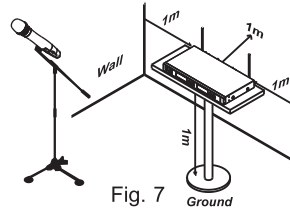

Fig. 7
4. For improving the reception range, install the receiver at least 1 meter above the ground and away from EMI / RFI “noise” sources. Also, place the transmitter at least 1 meter away from the receiving antenna. Fig. 7